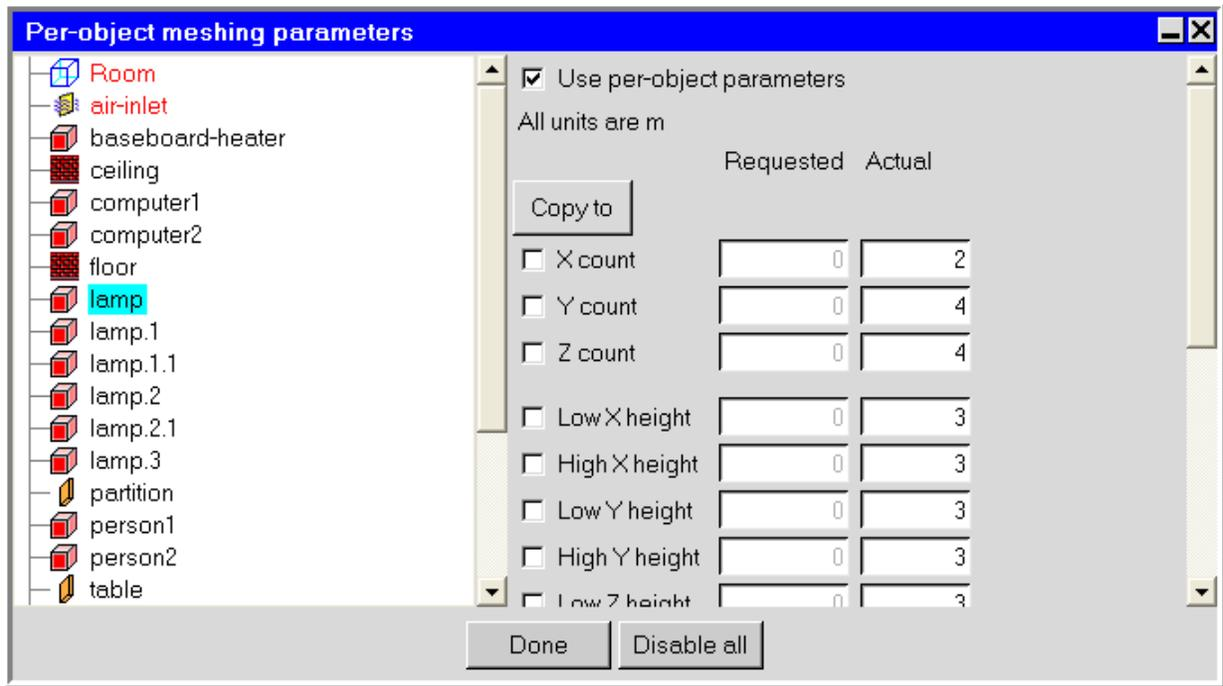

Figure 26.6.1: The Per-object meshing parameters Panel
4. Enable the **Object params** option (note that this option is called **Per-object params** if you selected **Tetra** for the **Mesh type**) and click the **Edit** button beside it to open the **Per-object meshing parameters** panel (Figure 26.6.1), which allows you to define meshing parameters specific to each object in the model.